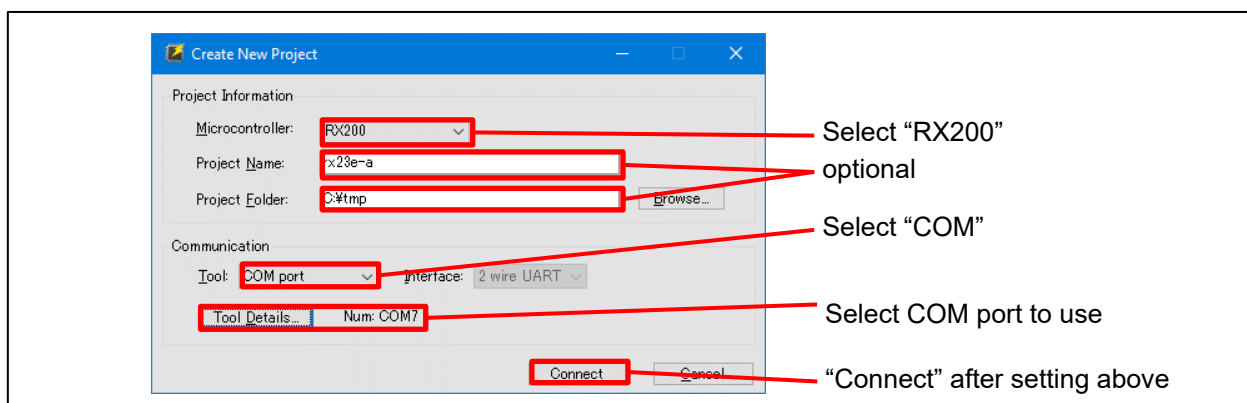

Figure 4-2 RFP “Create new project”
3. Execute Renesas Flash Programmer, then connect from menu “File” > “New Project...” in reference to Figure 4-2.